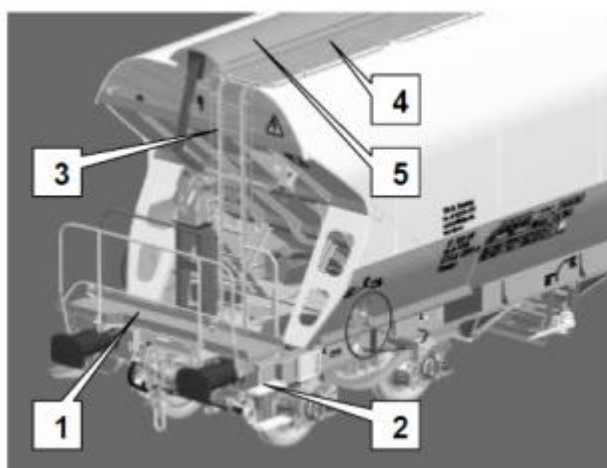
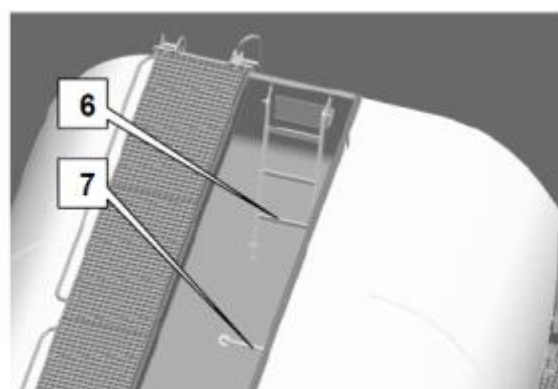

Figure: 8
Figure 9
Access to the wagon is possible from the sides of the wagon via the lateral step (2) to the transition platform (1) and via the ladder (3) to the roof platform on the tank (4) (Fig. 8). If necessary, after the roof (5) has been swung open, the inside of the tank can be accessed from the roof platform via the interior ladder (6) and via 4 interior steps (7) (Fig. 9 - illustration without roof).